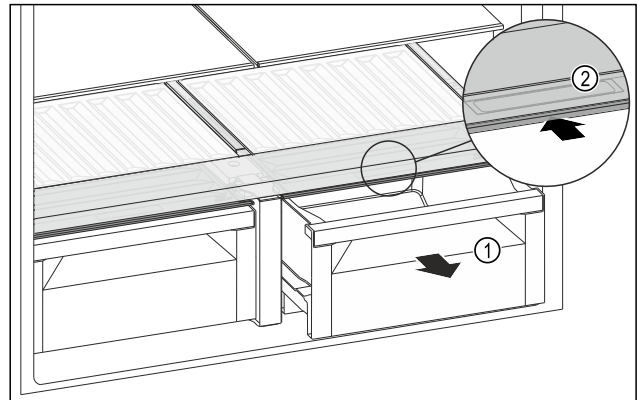

*Fig. 128*
- ▶ Pull out the drawer *Fig. 128 (1)*.
- ▶ Grip the handle recess *Fig. 128 (2)* on the lid while pulling the lid forward at the same time.